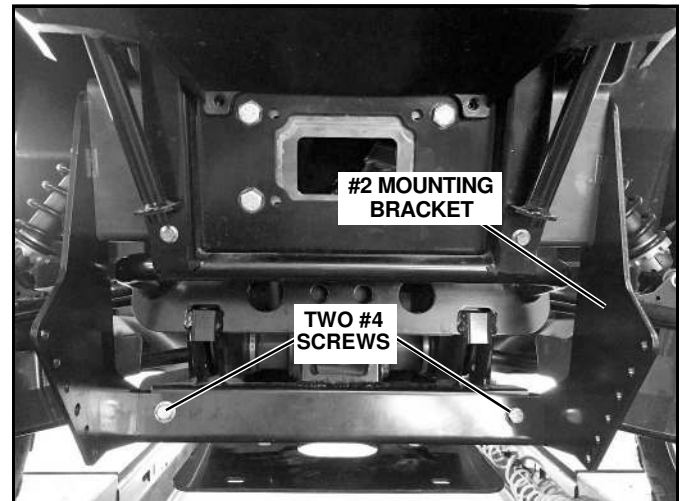

Figure 6
- Insert the Mounting Bracket (#2) against the frame. Secure with (2) 7/16" x 1-1/2" Hex Head Cap Screws (#4) and (2) 7/16" Lock Nuts (#6). (See Figure 6.) Tighten.